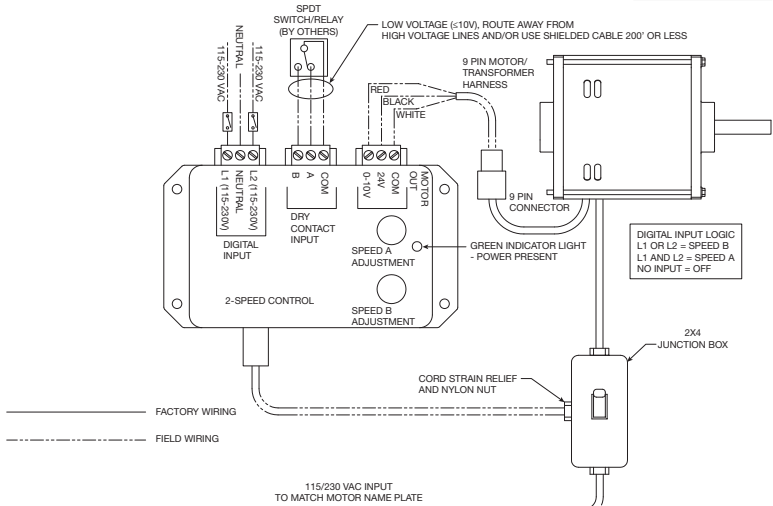

Figure 7 — 2-Speed Control
2. Run a 3-wire control cable from third party control device to the transformer mounted to the fan. The maximum distance from the fan to control device is 100 feet. Connect to dry contact input or digital input. See Figure 7 for wiring diagram.